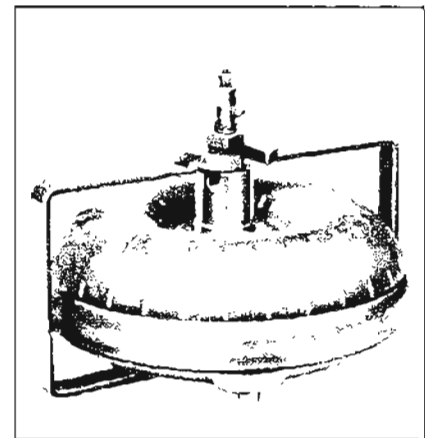

Figure 5-365
a. Install tool J-21369 and tighten. See Figure 5-365.